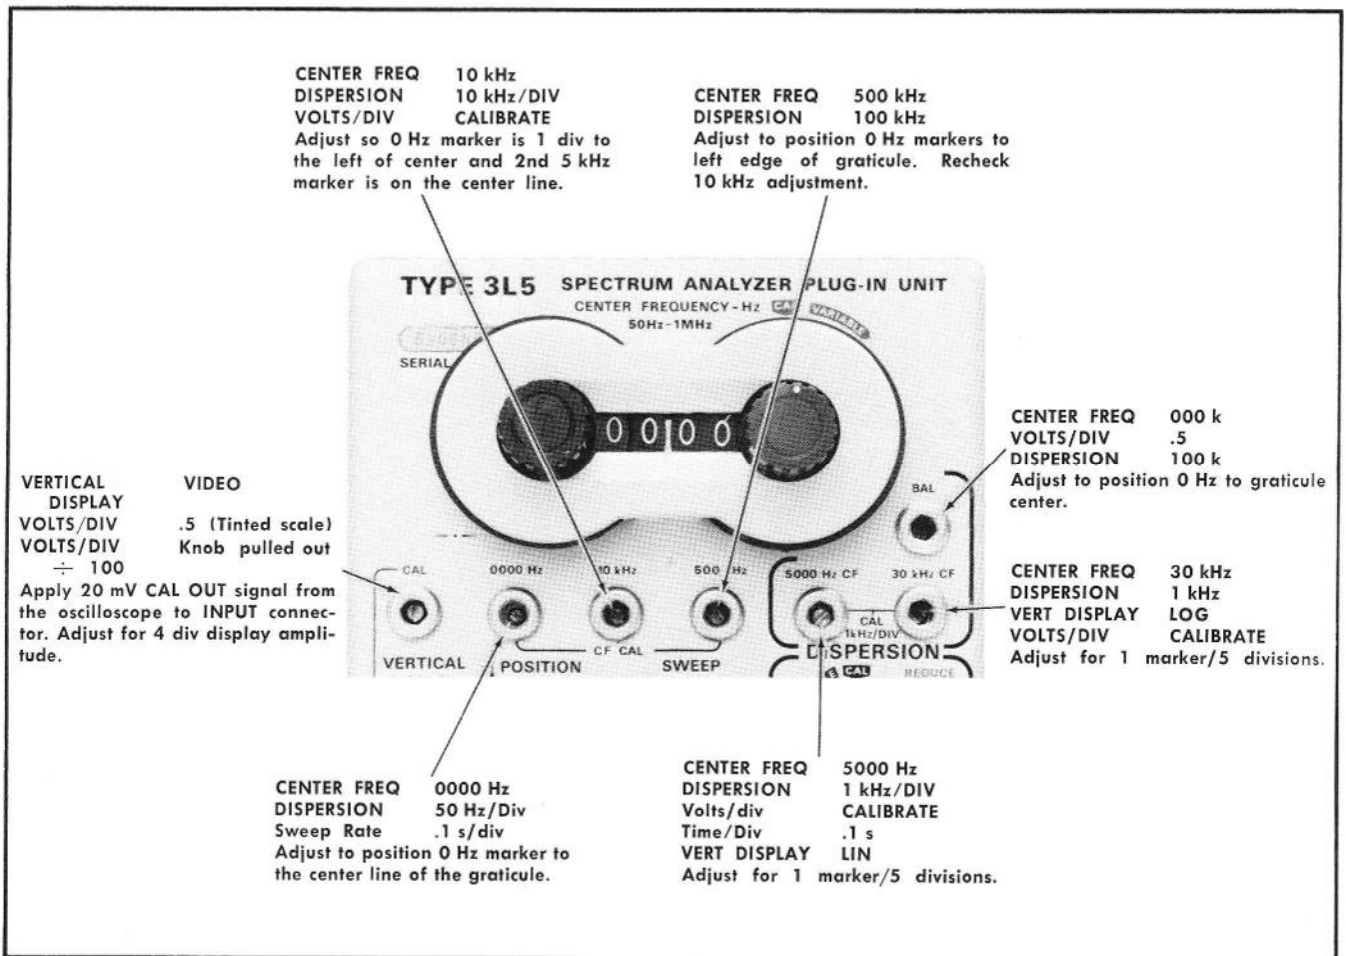

Fig. 2-2. Front panel calibration adjustments.
**Front Panel Calibration Adjustment Procedure (See Fig. 2-2)**